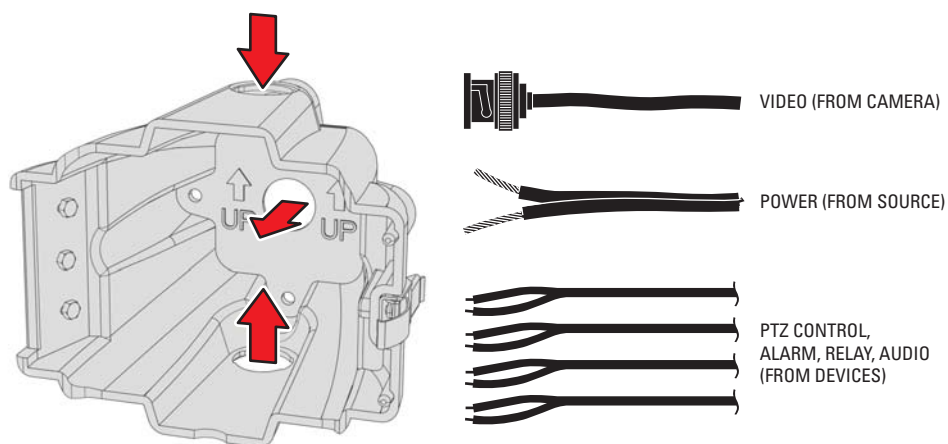

Figure 17. Routing Power, Video, and Multifunction Cables
6. Route the power, video, and multifunction cables into the J-box through the top, back, or bottom opening (refer to Figure 17).